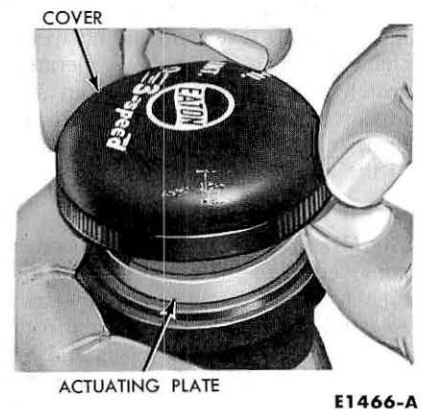

FIG. 19—Installing Cover
5. Continue to hold the actuating plate in the mounting position and install the cover (Fig. 19). Fasten the cover to the base plate with a lock washer and screw.